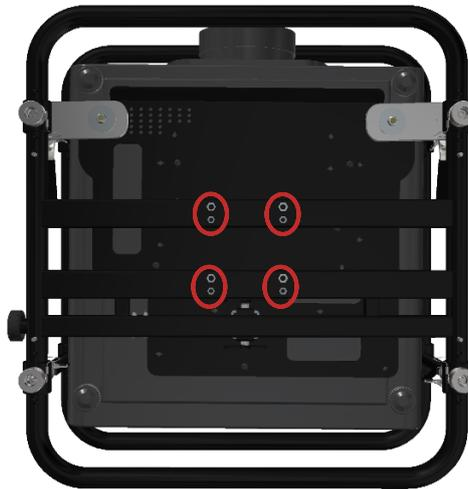

Figure 6 Downside of a frame with mounting points marked
Step 1: Place the frame, with the projector already installed, upside down on a flat surface. The four M6 and the four M8 threads from the middle of the frame have to be on the top. Figure 6 shows a FRAME-EVO-P10 as example. Different frames have different mounting points. Please consult the compatibility list presented on subchapter 4.2 Compatible frames for EVO-LINK-200 series to check if your frame is compatible with the EVO-LINK-200 series. After this consult the corresponding frame manual, to find out what type of mounting points are provided.